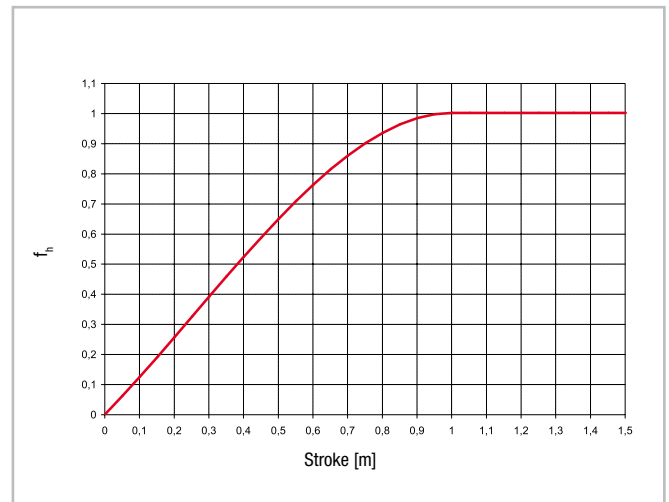

Fig. 56
- C = dynamic load rating (N)
- P = acting equivalent load (N)
- f_h = stroke factor (see p. 44, fig. 56)